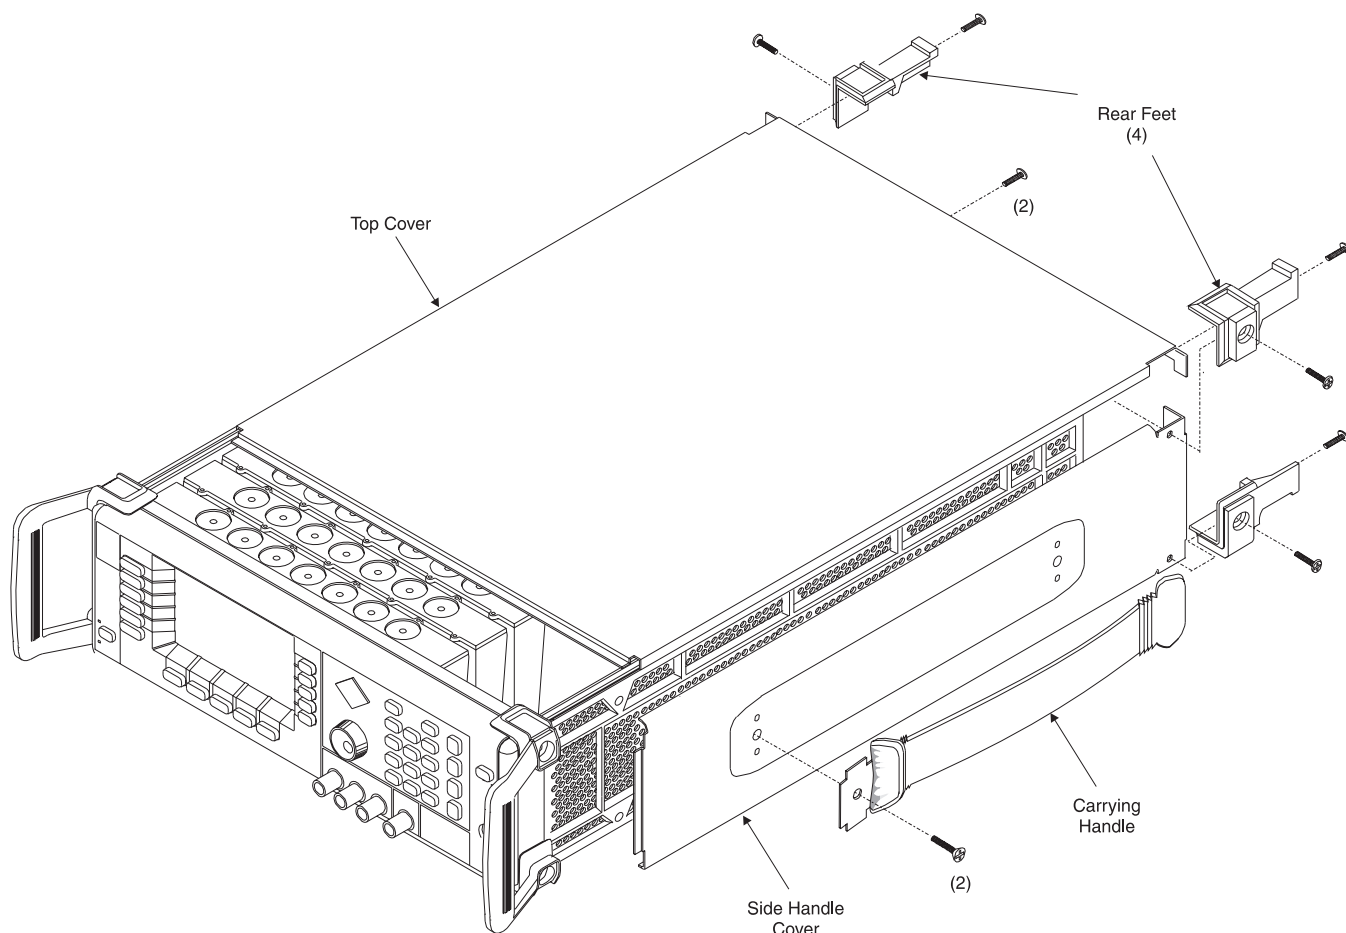

Figure 6-1. Chassis Covers Removal
- Step 1** Using a Phillips screwdriver, remove the screws and the two feet from the top corners at the rear of the instrument (Figure 6-1).